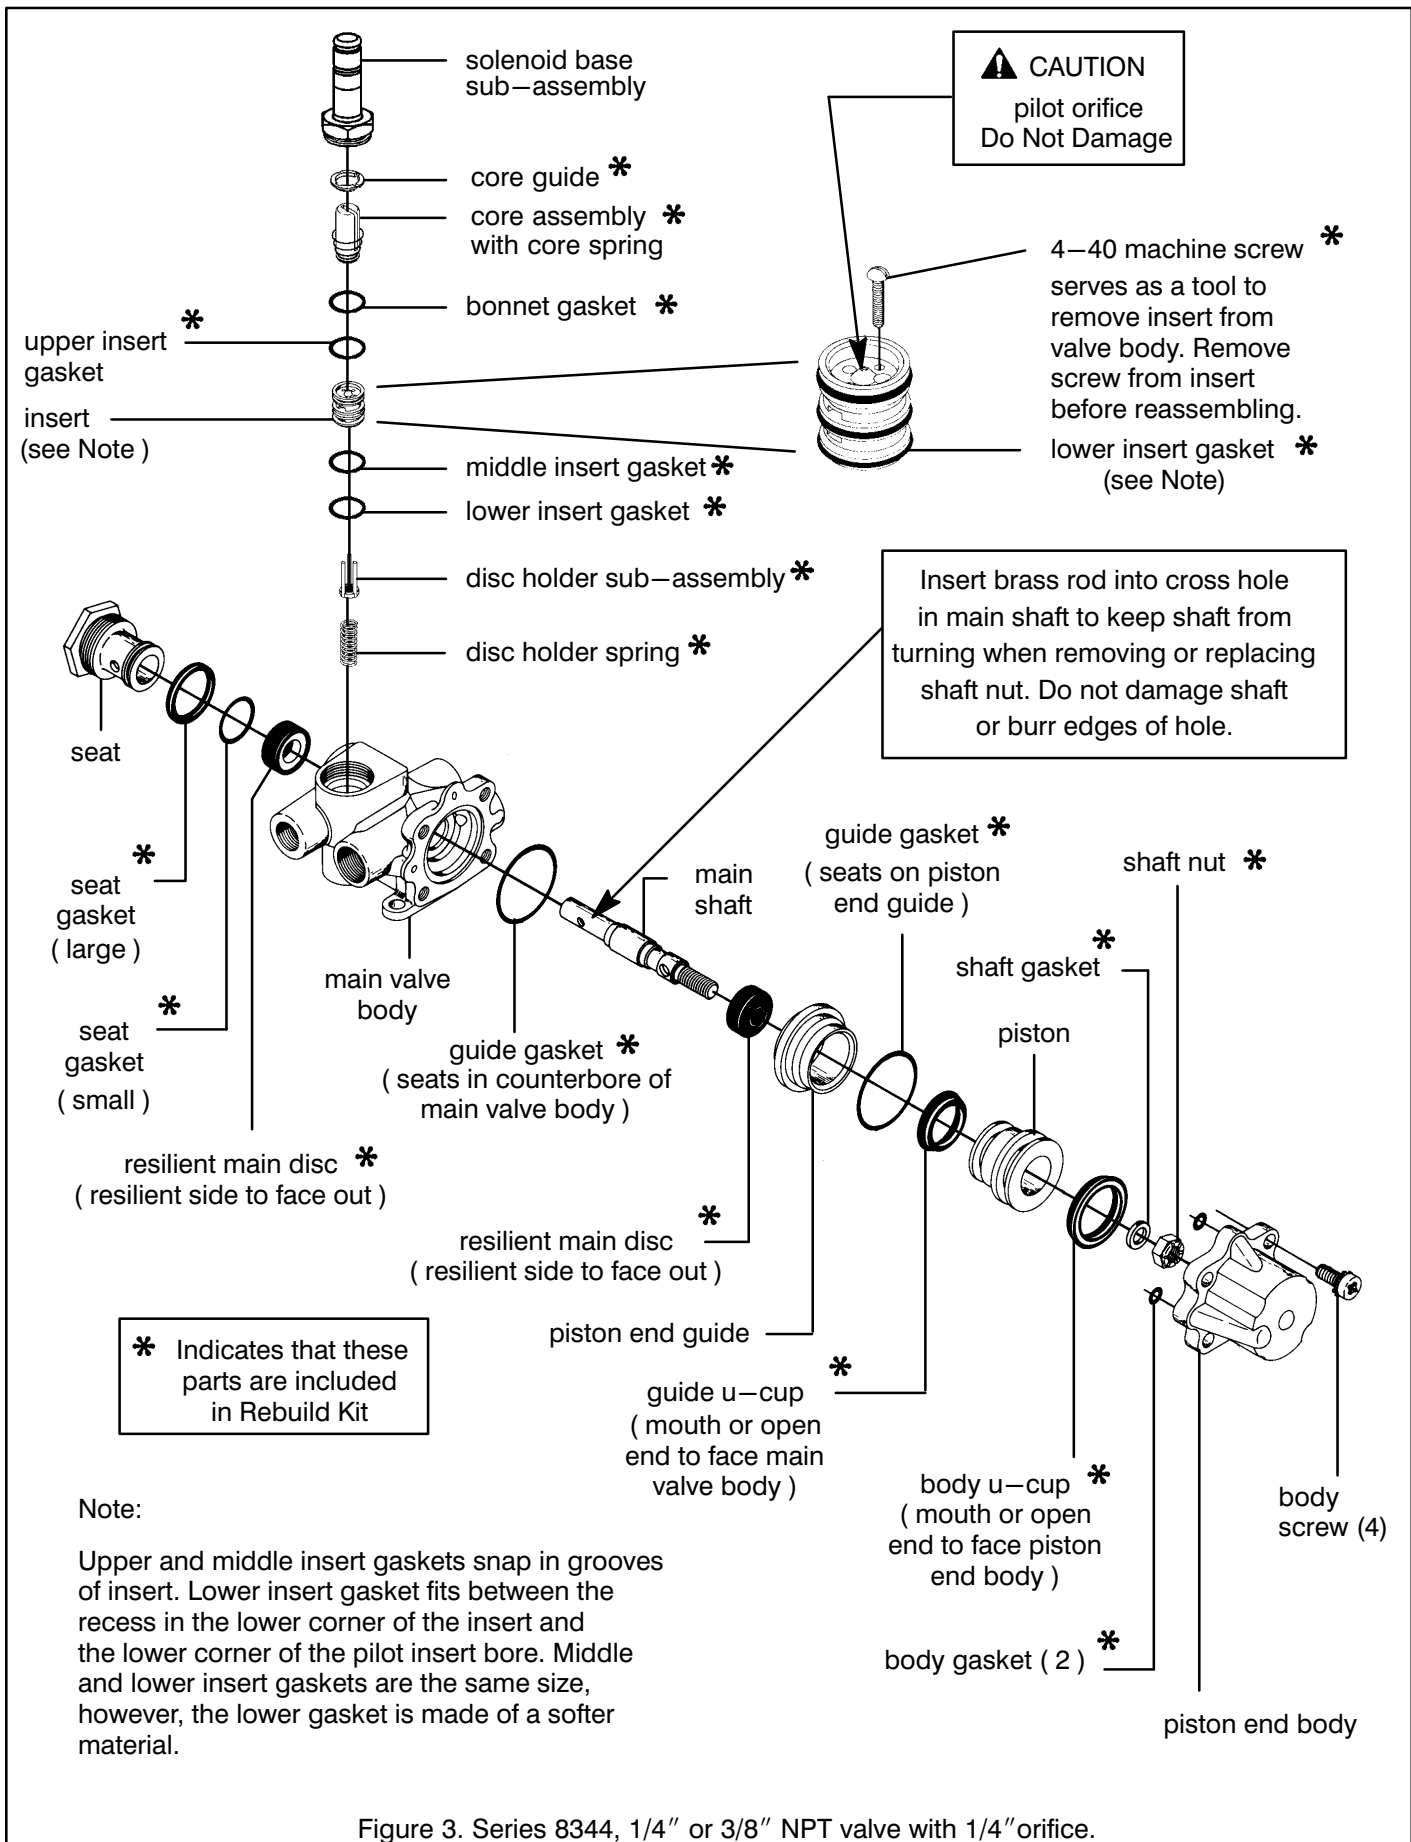

Figure 3. Series 8344, 1/4" or 3/8" NPT valve with 1/4" orifice.
2. Lubricate all remaining gaskets, u-cups, bores of piston, piston end body, main disc sliding area on the main shaft and valve body insert cavity (see Figure 3) with a light coat with DOW CORNING® 111 Compound lubricant.
- B. Install seat gasket and guide gaskets (2) on piston guide.
DOW CORNING® 111 Compound lubricant	body gaskets (2) guide gaskets (2) body u-cup u-cup o-ring ② Main shaft (slide area of main discs) Bores of piston and piston end body Internal 30° chamfers in valve body insert cavity. (See Figure 3 on Form No. V7544–Sec. 1)